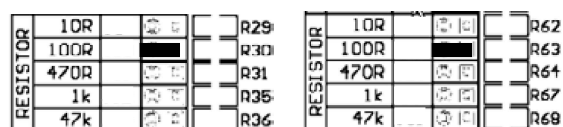

Figure 4: Left and right channels set to a 100 $\Omega$  resistance load
In the event that you're using a moving magnet (MM) cartridge, it is recommended that you leave the jumpers inserted in sockets for a 47k $\Omega$  resistive load. Conversely, if you're using a moving coil (MC) cartridge, experiment with the four (4) other available loads ranging from 10 $\Omega$  through 1K $\Omega$ , selecting the load that provides the best possible sound quality. For example, if you decided on using the resistance setting of 100 $\Omega$ , then you would insert the supplied jumpers into sockets besides 100R (refer to figure 4).